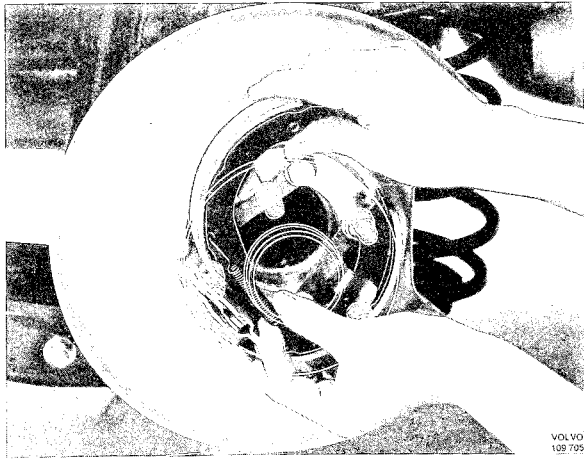

Fig. 5-85. Brake shoe installation
9. Install brake shoes and lower return spring (Fig. 5-85).
18. Apply a thin layer of graphite grease on the sliding surfaces of the brake shoes. Install brake shoes and lower return spring (Fig. 5-85).